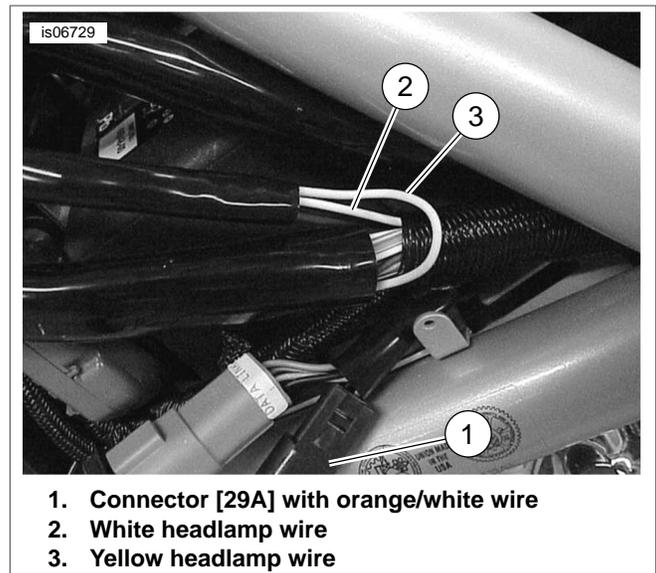

Figure 21. Wire Splice Locations (2002-2003 V-Rod)
1. See Figure 21 or Figure 22. Cut the orange/white main vehicle harness wire near the unused position lamp connector [29A] (1).